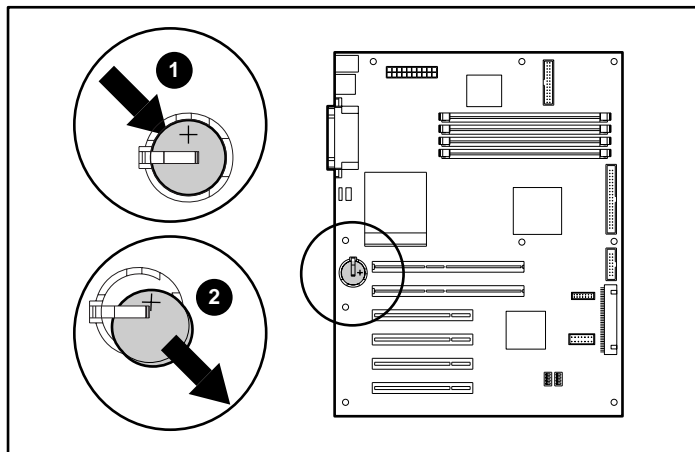

Figure 3-26. Removing the battery from the system board
2. Locate the battery on the system board. See Figure 3-26 for the location of the battery.